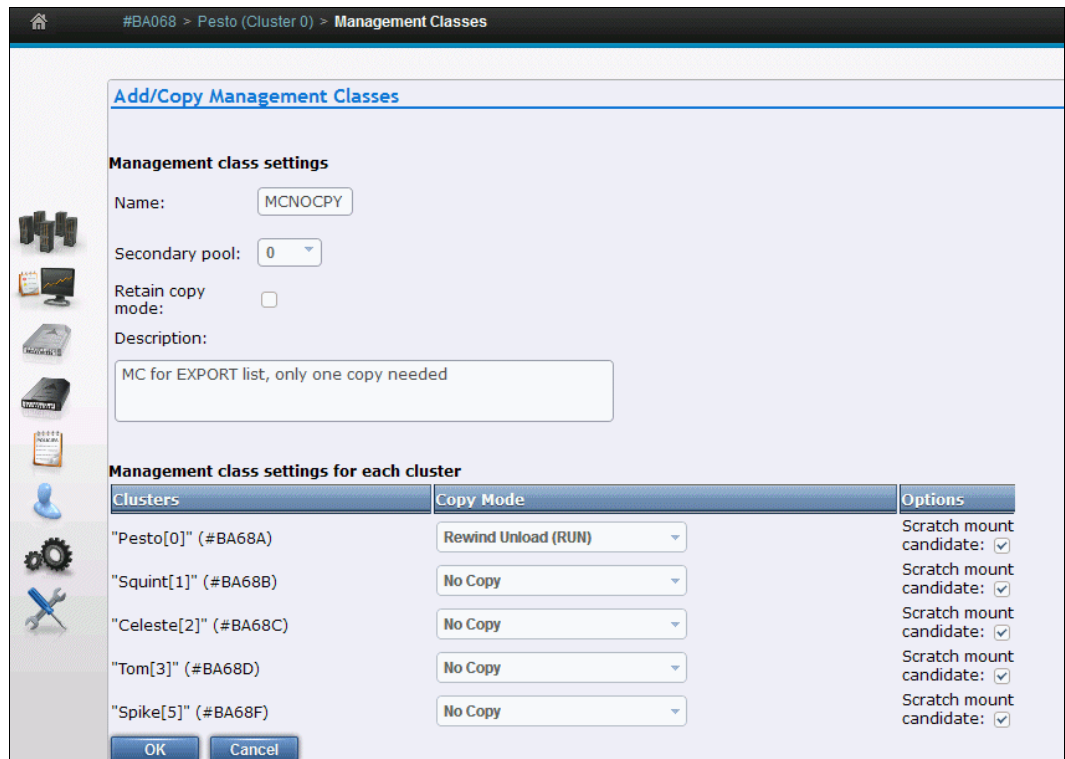

Figure 12-3 Management Class settings for the export list volume
To begin the Copy Export process, create an export list volume that provides the TS7700 with information about which data to export and the options to use during the operation (Figure 12-3 on page 775).
Figure 12-3 shows the setting of an MC on the MI for the export list volume in a multi-cluster grid configuration. RN means one copy locally at RUN (R) and no copy (NN) on the other cluster.